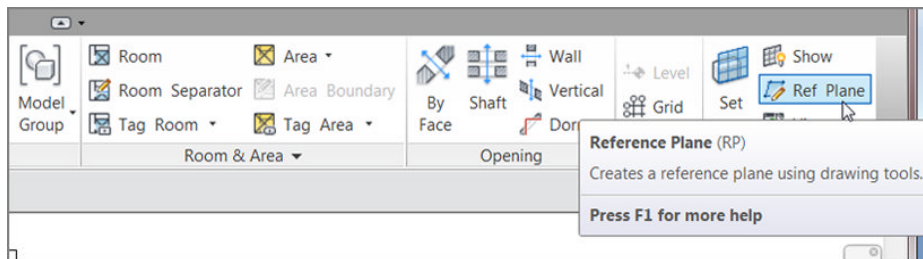

FIGURE 2.2: The Ref Plane command is on the Architecture tab's Work Plane panel on the Ribbon.
3. On the Work Plane panel of the Architecture tab, click the Ref Plane button (all the way to the right), as shown in Figure 2.2.